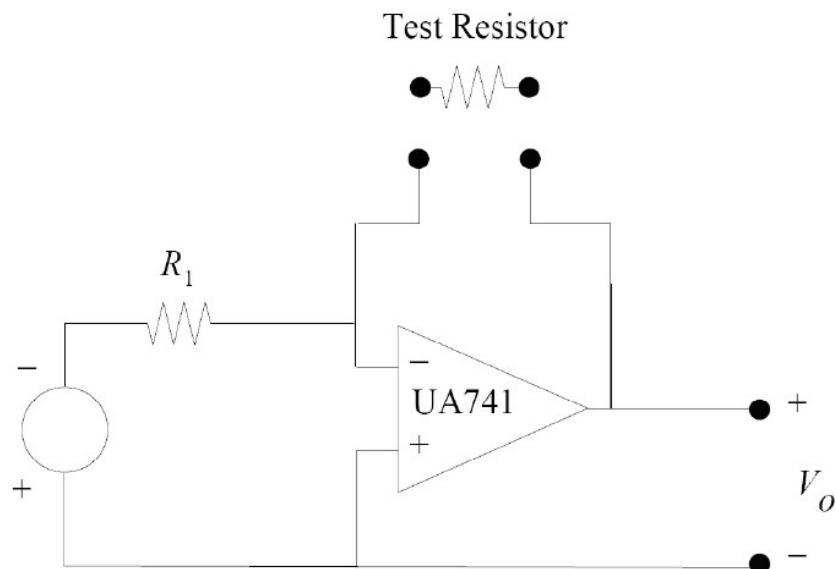

Fig. 1
2. The operational amplifier, or op-amp, circuit shown in Figure 1 is proposed as an ohmmeter to measure unknown resistances. Find a value for  $R_1$  so that the voltmeter connected to the output will read the resistance in kilo-ohms (i.e.  $1\text{ V} = 1\text{ k}\Omega$ ,  $2\text{ V} = 2\text{ k}\Omega$ ) when the voltage source is 5V.
**Important Note:** Please remember to turn off all power supplies to your circuit before making modifications to your circuits, such as when you move the test resistor in Figure 1 in and out of the circuit, since that eliminates the critical feedback path. Failure to turn off all power supplies will probably damage your op-amp in some way resulting in unpredictable behavior of your circuit.
- B1.** Create the circuit shown in Figure 1 with  $R_1$  equal to the value you calculated in the prelab and use a power supply voltages of  $\pm 15$  volts for  $V_{cc+}$  and  $V_{cc-}$ .